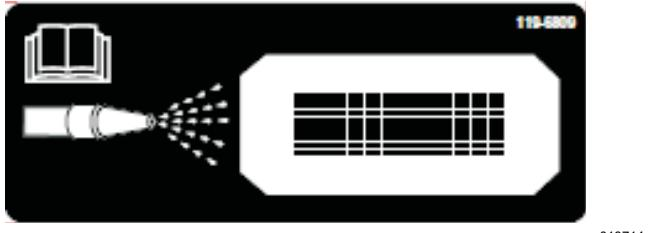
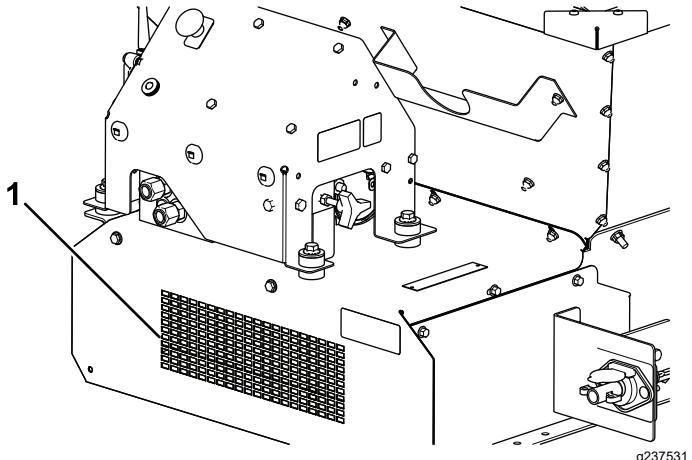

Figure 62
Figure 63
11. Locate the clean-out decal on the front of the machine (Figure 62), using a garden hose, spray through the front guard mesh until the belly pan is completely clear of material (Figure 63).